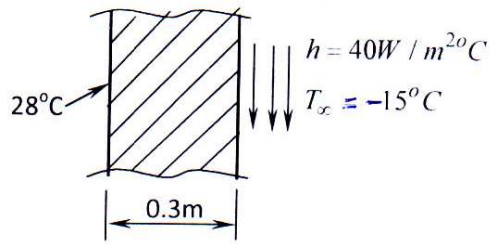

Fig. Q 9(b)
- b. Consider a brick wall (Fig Q 9(b)) of thickness $L = 0.3 \text{ m}$, $K = 0.7 \text{ W/m}^\circ\text{C}$. The inner surface is at 28°C and the outer surface is exposed to cold air at -15°C . The heat transfer coefficient associated with the outside surface is $h = 40 \text{ W/m}^2\text{C}$. Determine the steady-state temperature distribution within the wall and also the heat flux through the wall. Use two-element model. 12